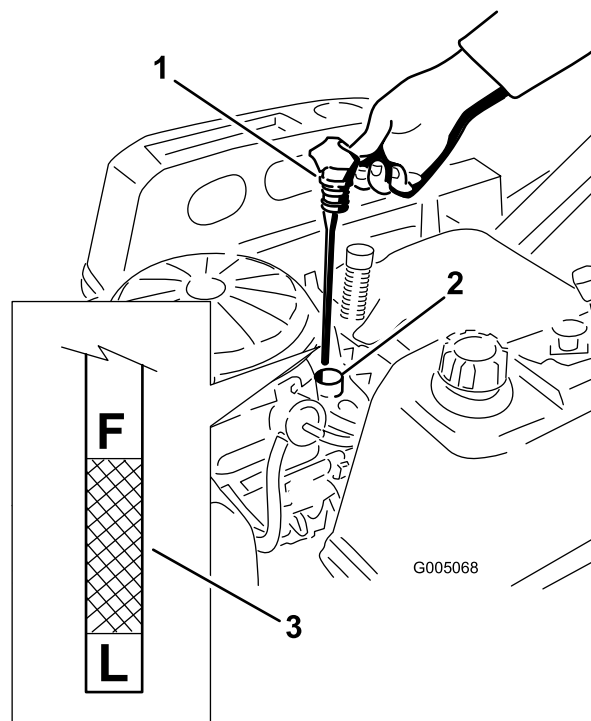

Figure 31
5. Remove the dipstick and check the oil level. (Figure 31).
4. Pull and remove the oil fill cap/dipstick; wipe oil off. Reinsert the dipstick and push firmly into place (Figure 31).
8. Turn the drain valve 1/4 counter clockwise to open and allow the oil to drain (Figure 33). Remove the oil fill cap/dipstick (Figure 31).
15. Slowly pour approximately 80% of the specified oil into the filler tube (Figure 31).
16. Install the oil fill cap/dipstick and push firmly into place (Figure 31).
17. Check the oil level (Figure 31); refer to Checking the Oil Level.
19. Install the oil fill cap/dipstick and push firmly into place (Figure 31).